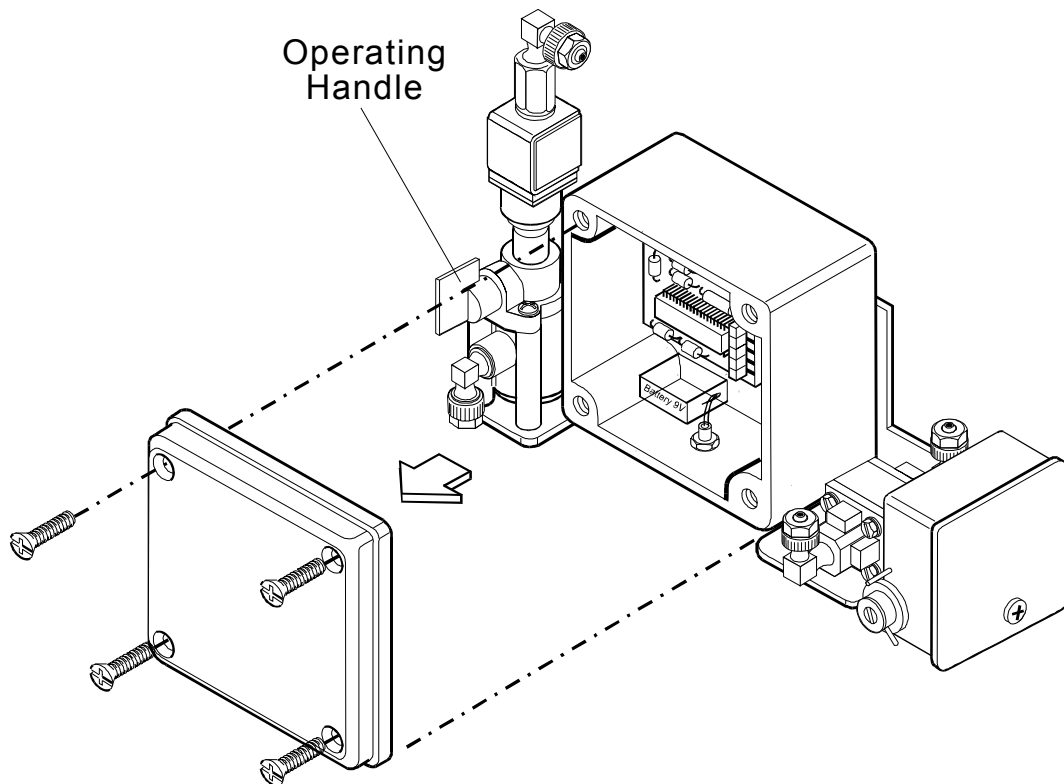

Figure 3: Battery Removal & Installation
8. Perform an additional flushing cycle manually by operating the handle (turn clockwise 90°) located on the solenoid valve (See Figure 3).
9V Battery Removal & Installation (Figure 3)